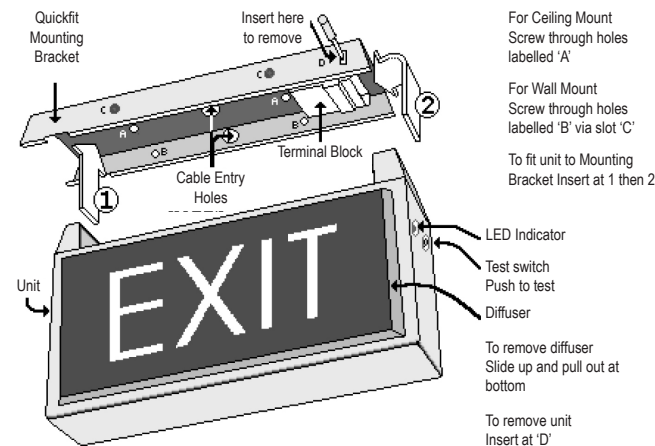

Figure 3: Quickfit Insertion Diagram
Gently insert a small screwdriver into the slot (at 'D' in Figure 3) on the front of the bracket towards the right hand end of the fitting, to ease the locking tab into the fitting and away from the bracket. The unit is then free to slide to the right along the bracket for about 50mm, at which time the slots line up and it can be lowered away from the bracket, allowing the two to separate. The unit will automatically switch into emergency mode because it has been removed from the power supply. It will stay on emergency until such time as the battery cut off threshold is reached or it is reconnected back onto the power supply, whichever happens first. When the unit is reconnected to the supply, it will need time to recharge its battery before it will be capable of a full length discharge again. The ability of the unit to operate on emergency is determined by the age, charge level, operating temperature conditions and environmental circumstances of the battery in the unit.
5. Fit the back plate and/or diffuser/s to the unit (if not already in place) and attach the unit to the mounting bracket by aligning the top left hand end of the unit (the end without the protruding electrical connecting metal lugs) with the large cut away slot towards the left hand end of the bracket. Slip the left hand end of the unit up into the slot in the left hand end of the bracket (Step (1) in Figure 3) and hold the unit horizontal to and parallel with the bracket. It should be approximately 50mm to the right of its final destination. Simply slide the unit (Step (2) in Figure 3) 50mm to the left along and into the bracket to engage the connections and the locking tab. Once in place, the unit cannot be removed from the bracket without the use of a tool (a small screwdriver) to push in the locking tab at 'D' in Figure 3.